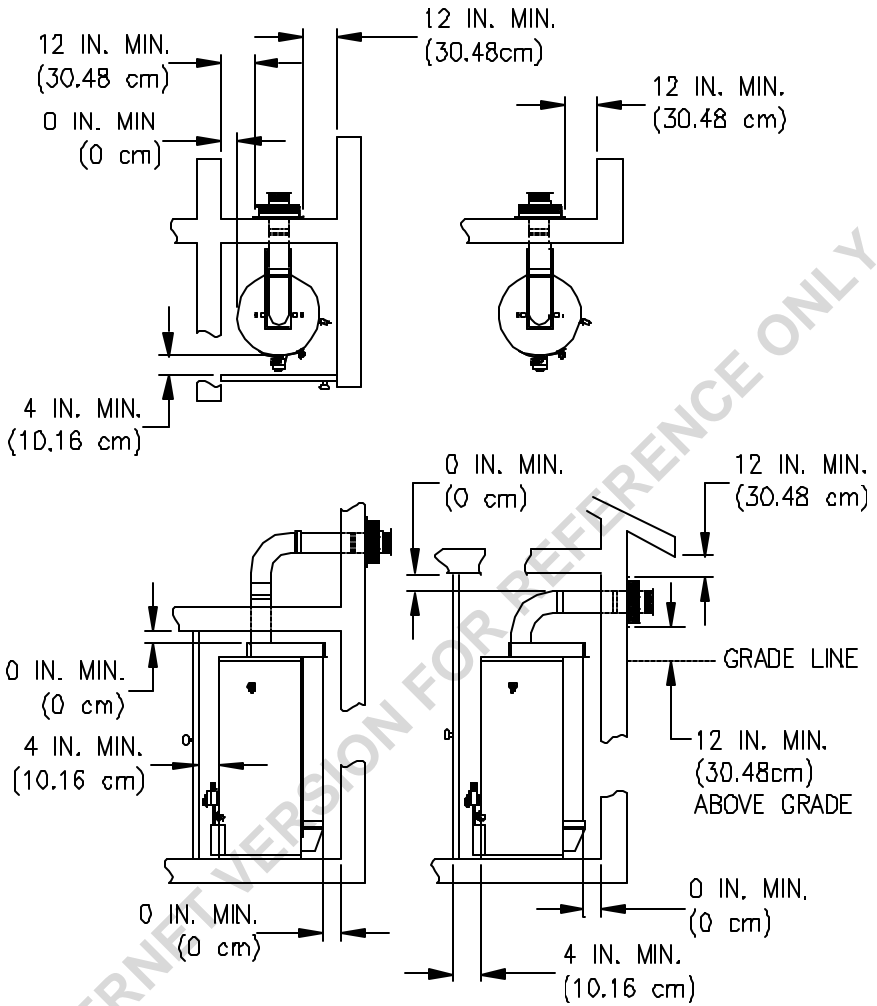

Figure 1
This installation shall allow access to the front of the water heater and adequate clearance shall be provided for servicing and operating this water heater. The water heater may be installed on either a combustible or non-combustible floor. If the water heater is to be installed directly on carpeting, it shall be installed on top of a metal or wood panel extending beyond the full width and depth of the appliance by at least three (3) inches (7.6 cm) in any direction or, if the appliance is to be installed in an alcove or closet, the entire floor shall be covered by the panel. The minimum clearances to combustibles for this water heater is: zero (0) inch (0 cm) from the sides and rear, four (4) inches (10.2 cm) from the front of the jacket, zero (0) inch (0 cm) from the plenum, zero (0) inch (0 cm) from the air intake elbow and telescopic tubes and twelve (12) inches (30.5 cm) from the direct vent-air intake terminal. (See Figure 1).